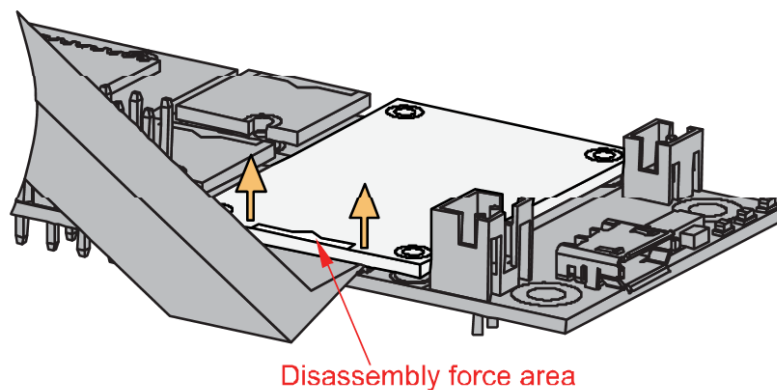

Figure 6: Applying even forces on the proper location of a WisBlock module
3. Apply force to the module at the position of the connector, as shown in **Figure 6**, to detach the module from the baseboard.